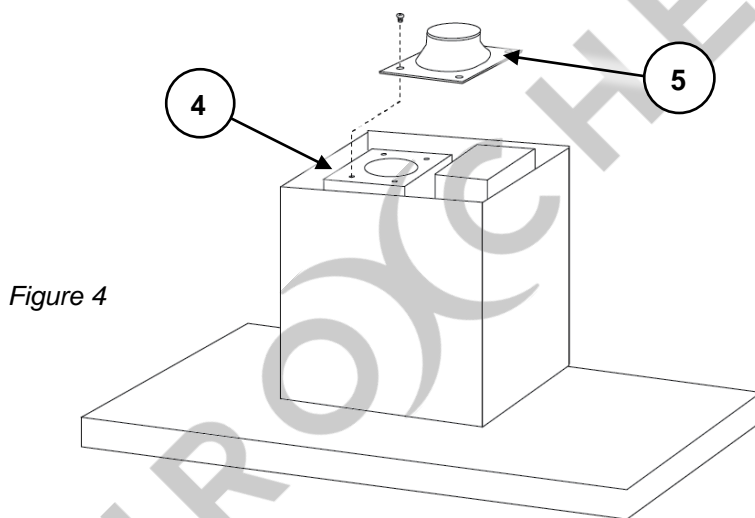

Figure 4
7. Refer to *Figure 4*. Remove the 4 screws holding the rubber exhaust seal in position on the exhaust unit (4). Place the exhaust valve (5) in position over the seal and secure it using the removed screws.